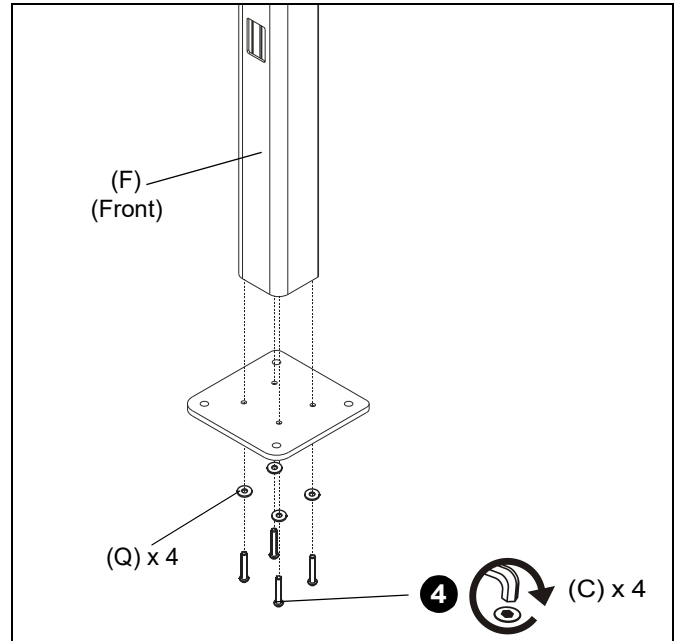

Figure 2
4. Attach base plate (A) to the center post (F) using four 5/16-18 x 1-1/2" flat head cap screws (C) and four 5/16" flat washers (Q). (See Figure 2)